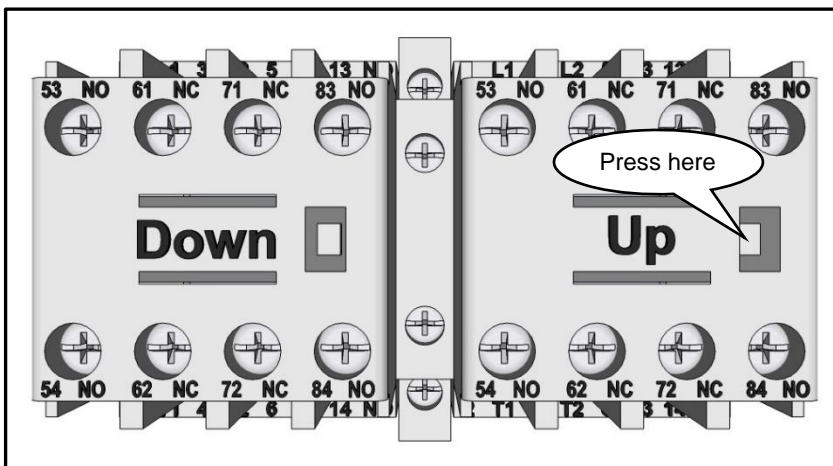

Figure 24
- 2** To check the motor rotation, open the control box and locate the Down “D” and Up “U” contactor. (see **Figure 24**)